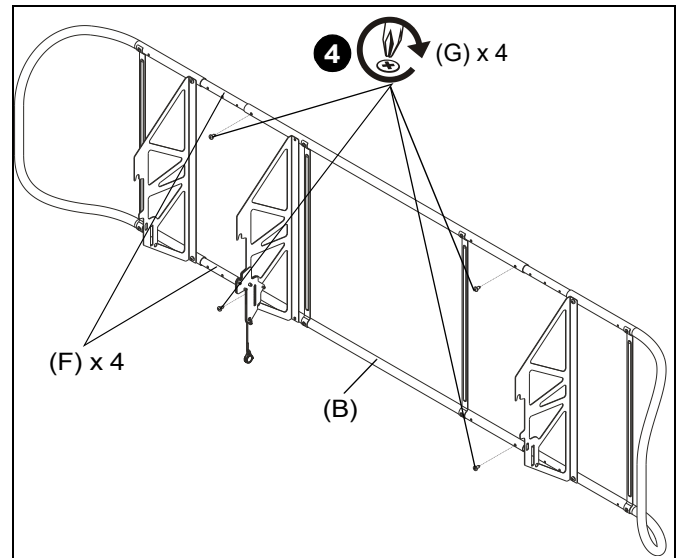

Figure 8
4. Use four #12-24 x 3/8" Phillips tapping screws (G) to secure four center joiner tubes (F) to center frame (B). (See Figure 8)